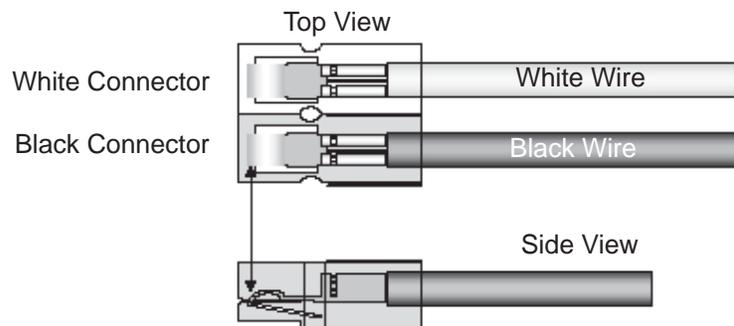

Fig. 3-6, Wire/Connector Assembly
9. Remove the black and white wires from the Anderson connector (see Fig. 3-6) and strip the wire ends 8mm (3/8").